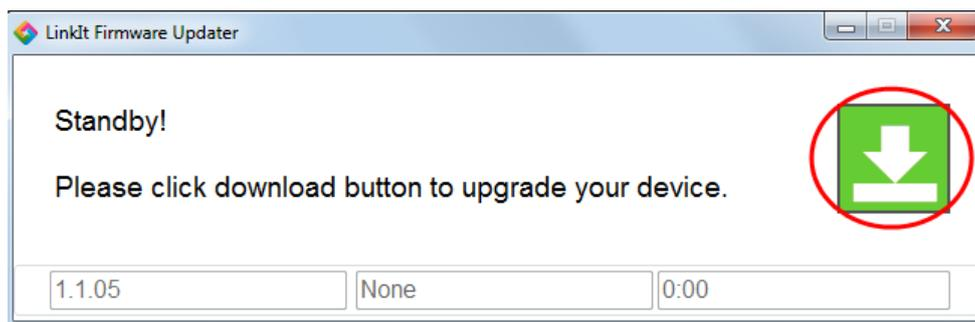

Figure 23 Click the download button to start the firmware update process
- 3) In LinkIt ONE Firmware Updater, click the download button, as shown in Figure 23.